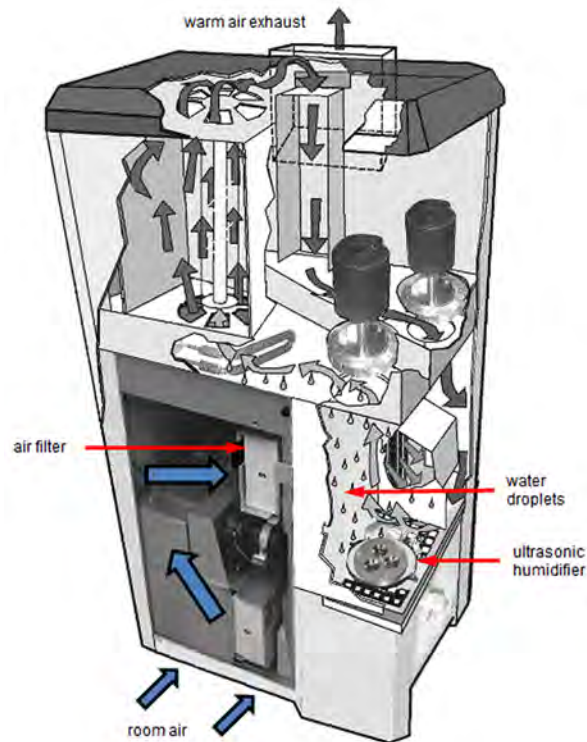
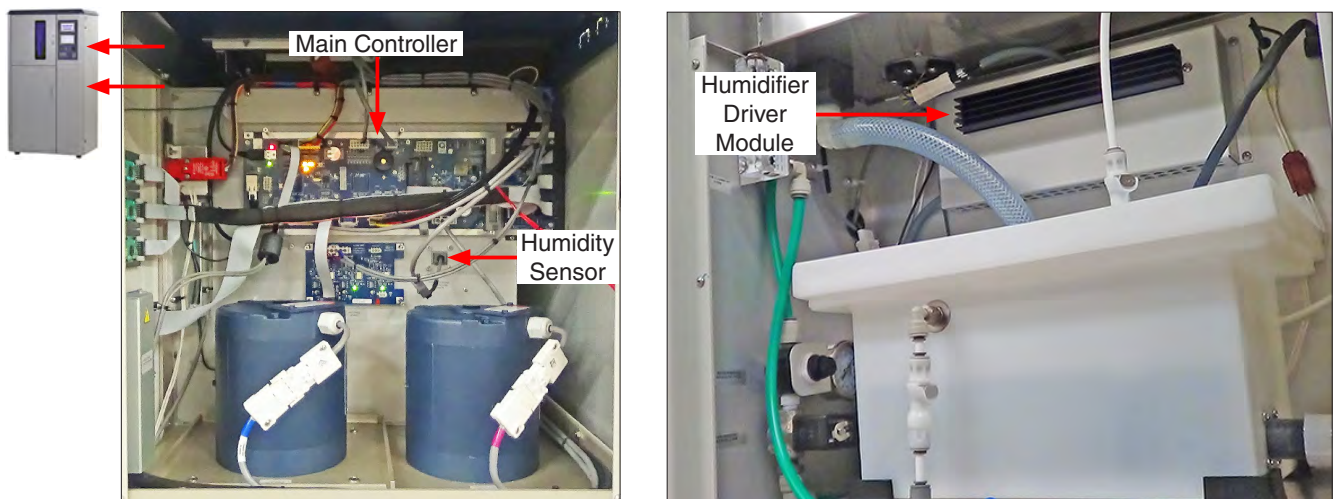

Figure 9.3a: Humidity control system.
Figure 9.3b: Humidity control components.
- The humidity control system includes the main controller, driver module, and the humidity sensor (Figure 9.3a and Figure 9.3b).